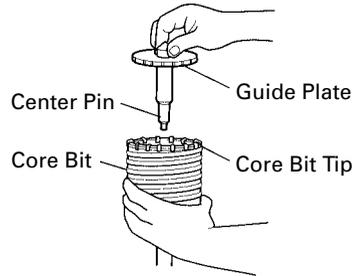

Fig. 17
- (3) Insert the center pin into the guide plate until it stops.
- (4) Engage the guide plate with the core bit, and turn the guide plate to left or right so that it does not fall even if it faces downward. (Fig. 17)